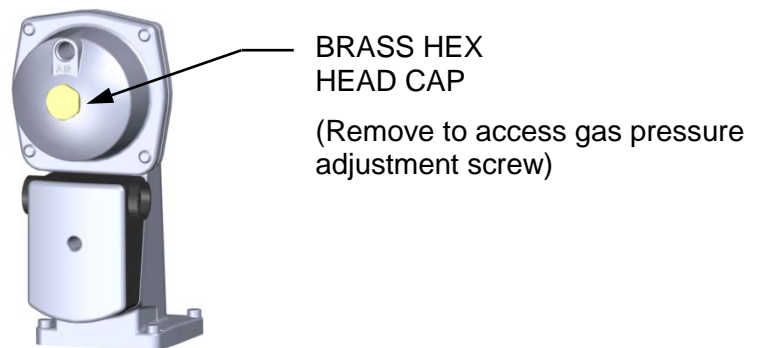

Figure 4-5. SSOV Gas Pressure Adjustment Screw Location
14. If the gas pressure downstream of the SSOV is **NOT** within ± 0.2 " W.C. of the pressure listed on the Manifold Gas Pressure Setting tag, remove the brass hex nut on the SSOV actuator to access the gas pressure adjustment screw (see Figure 4-5, above). Slowly rotate the screw in approximately 1/4-turn increments **clockwise** to **reduce** the oxygen level, or **counterclockwise** to **increase** the oxygen level, as needed, to reach the value listed in the table above. Allow the combustion analyzer to stabilize following each adjustment.
16. Compare the oxygen (O₂) level, carbon monoxide (CO) and flame strength readings with the range shown in step 24, below. You may need to adjust O₂% above this range to avoid combustion tone issues.
21. The oxygen level at the 100% valve position should be as shown below. Also, ensure that the nitrogen oxide (NO_x), carbon monoxide (CO) and flame strength readings match the values shown in the table below.